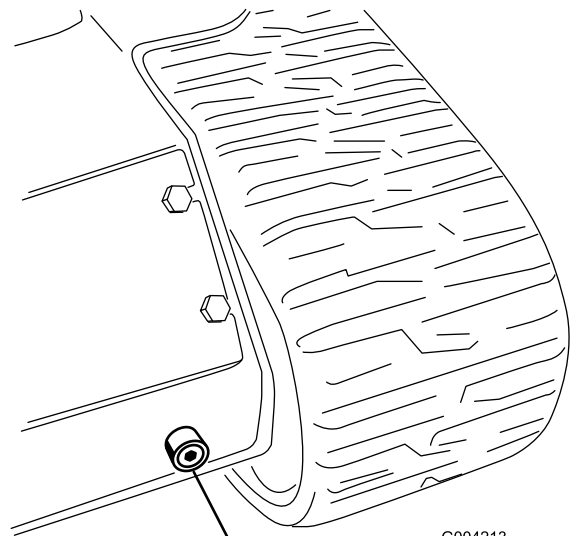

Figure 62
6. Place a large drain pan capable of holding 57 L (15 US gallons) under the drain plug on the front of the machine (Figure 62).
7. Remove the drain plug and allow the oil to drain into the pan (Figure 62).